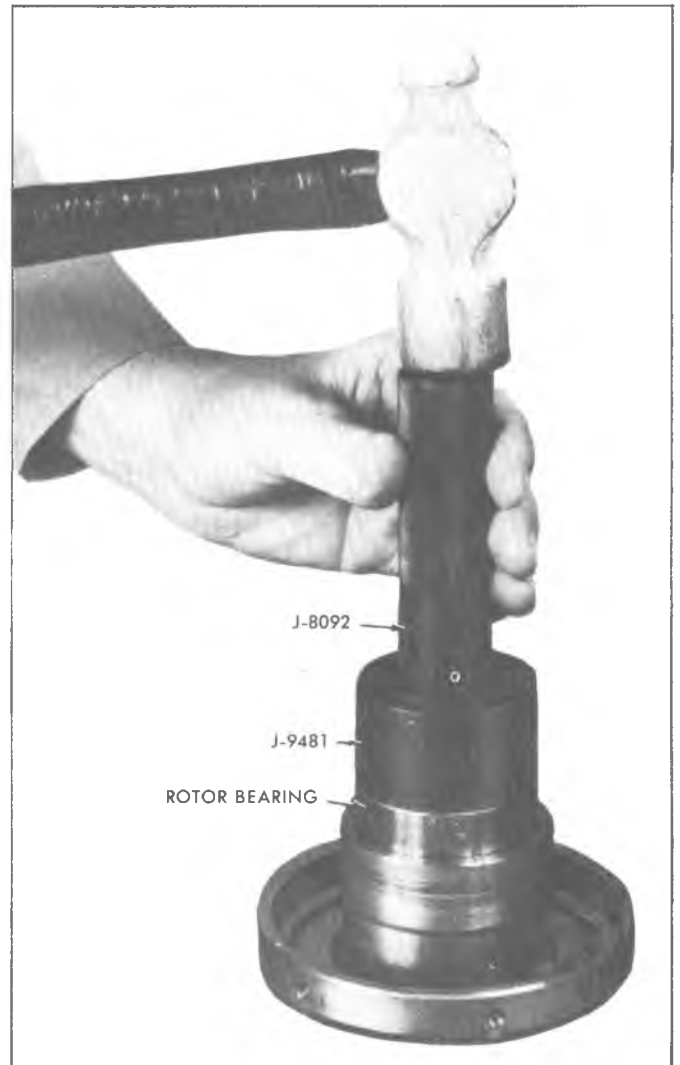

Fig. 16—Installing Clutch Rotor Bearing
1. Place rotor and hub assembly face down on a clean, flat and firm surface (Fig. 16).